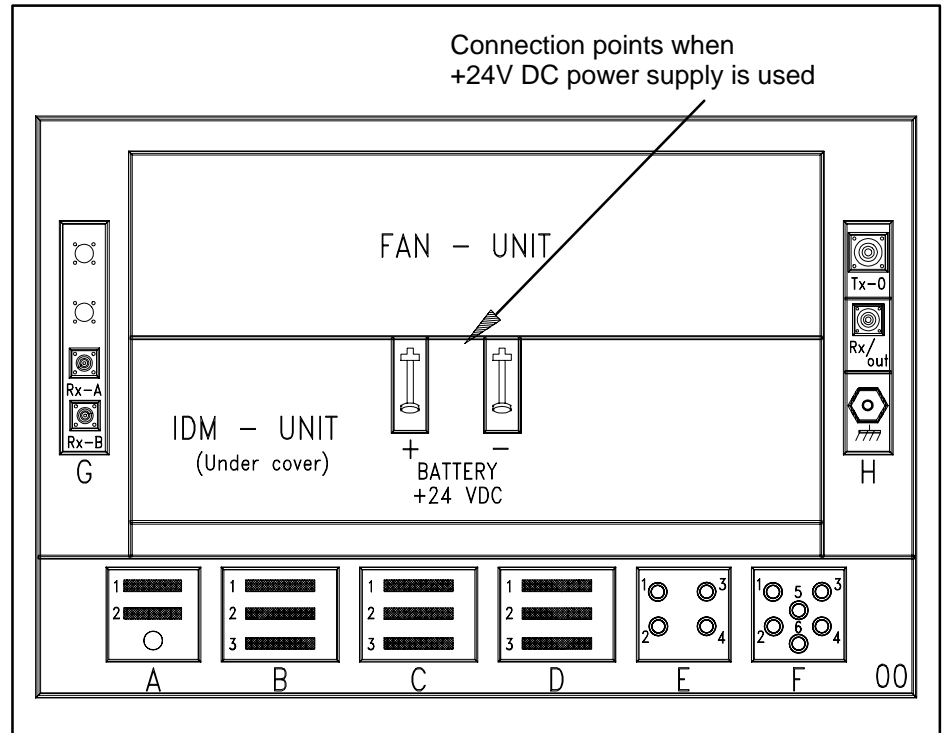

Figure 1 Connection points for +24V DC on top of cabinet
- Terminate cables from the power source to the connection points in the middle of the IDM unit on top of the cabinet, as indicated in figure 1.